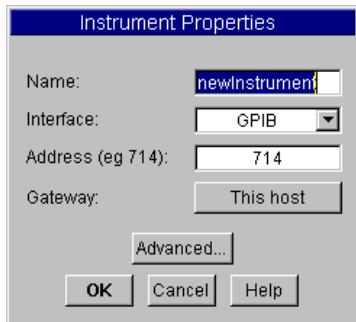

Figure 3-7. Instrument Properties Dialog Box
2. In the Instrument Manager dialog box, make sure My Configuration is highlighted, and click Add... under Instrument. The Instrument Properties dialog appears, as shown in Figure 3-7.